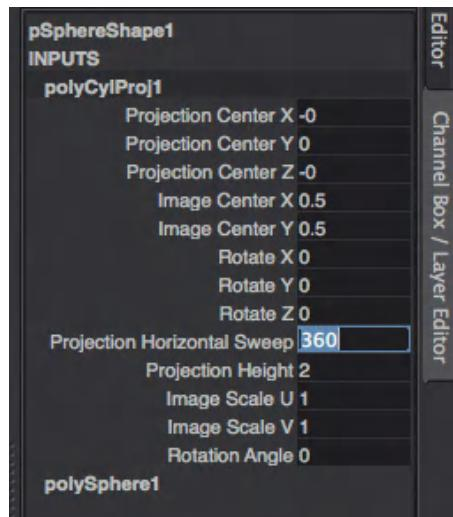

FIG 5.44 Adjusting the Cylindrical Mapping projection to wrap clear around the object.
Step 23: Choose Polygons>Create UVs > Cylindrical Mapping. Although this projection is still active, activate the Channels Box and change the Projection Horizontal Sweep to 360 (Fig. 5.44).